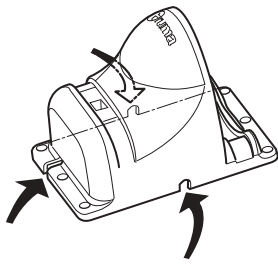

Fig. 52
- ⓘ Depending on the installation situation, the cable can be routed through one of the three recesses (Fig. 52) in the socket holder.